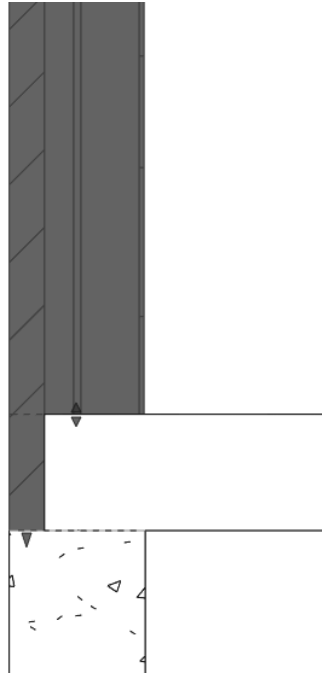

Figure 7–35
- An alternative option for adjusting the extension is in the instance properties of the wall. Set the *Base Extension Distance* to adjust unlocked layers, as shown in Figure 7–36.